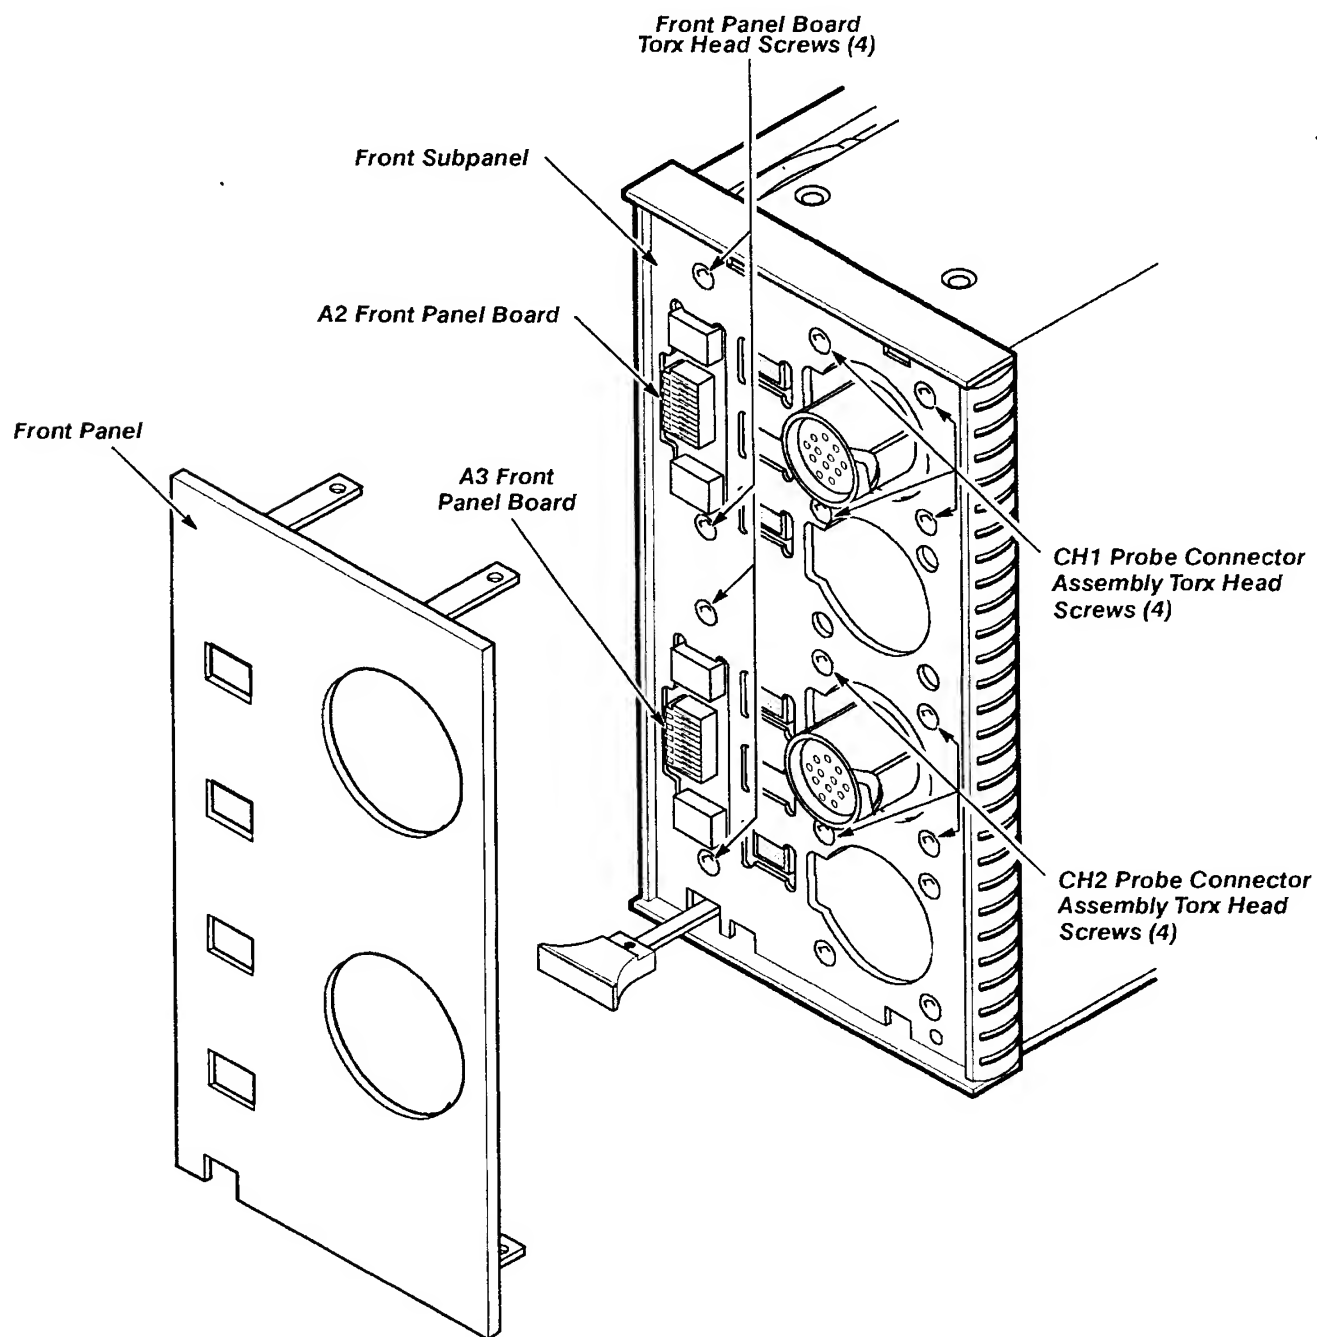

Figure 3-7 — Removing/Replacing the Probe Connectors, Front Panel, and the Front Panel Boards
- ☐ Step 4: Remove the four Torx head screws (see Fig. 3-7) that secure the current probe connector assembly to the front subpanel.
See Figures 3-7, 3-6, and 3-12 for connector, screw, and index locations. A continuity check between the Front Panel and Main board connector will verify a fault.